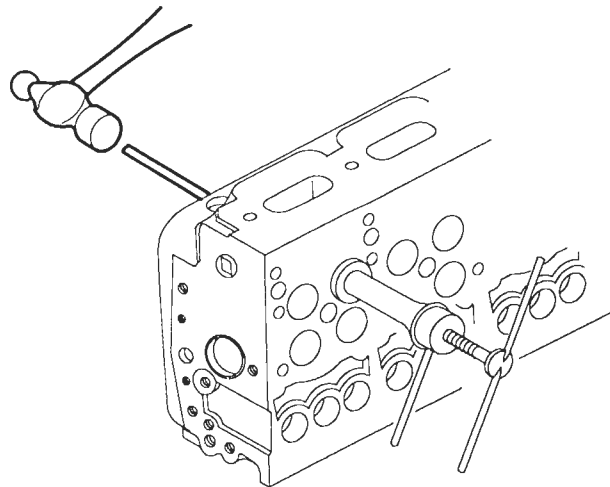

Figure 10. Removing Valve Seat Insert
1. Place the cylinder head on its side (Figure 10.)